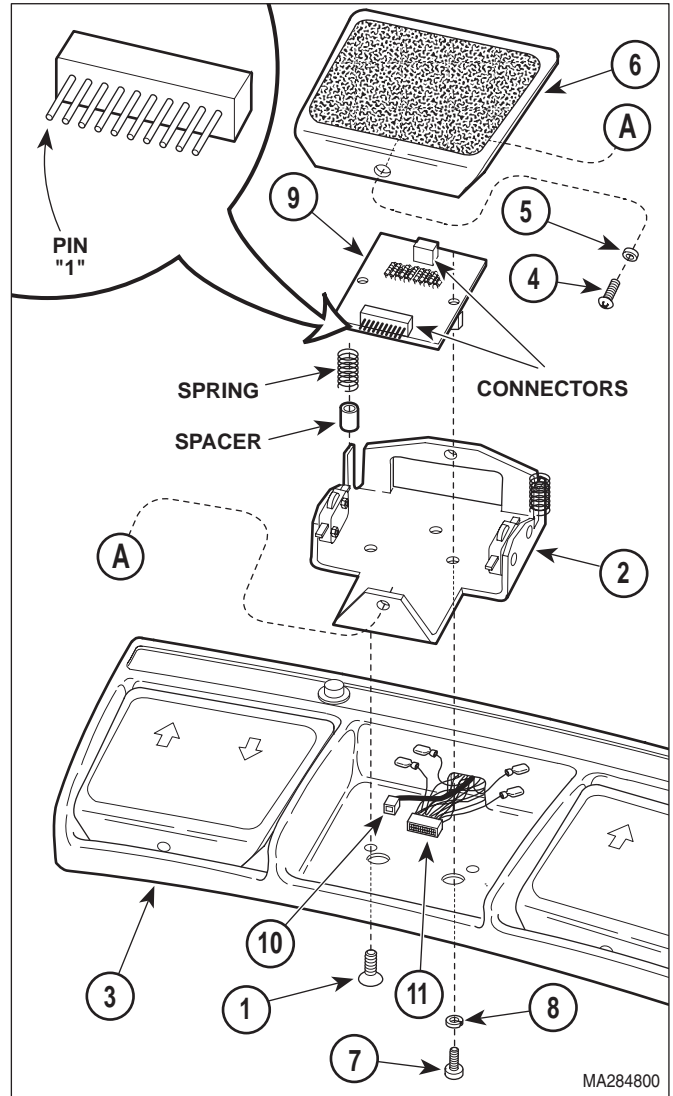

Figure 4-29. Foot Control Interface Board Removal / Installation
- (1) Remove two screws (1, Figure 4-29) and partially separate foot switch bracket (2) from foot control casting (3).
- (2) Remove screw (4), spacer (5), and pedal (6) from foot switch bracket (2).
- (3) Remove two screws (7), lockwashers (8), and partially separate interface board (9) from foot switch bracket (2).